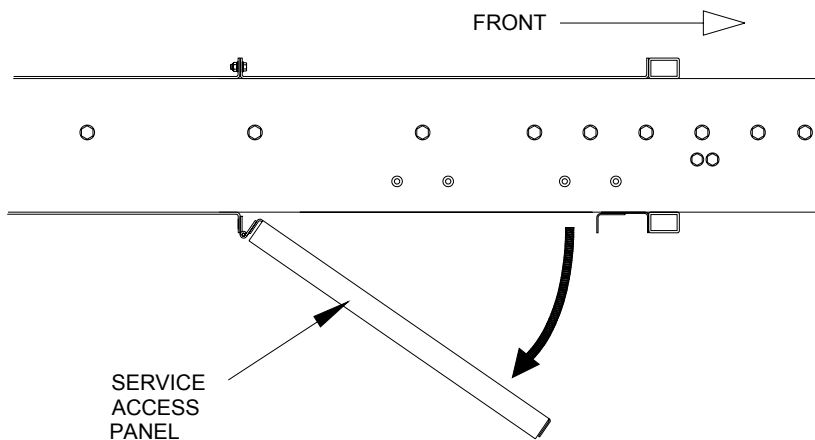

FIGURE 2: OPENING ACCESS DOOR (LEFT SIDE VIEW)
4. Refer to **Figure 2**. Open access door by removing retaining screws on each side.